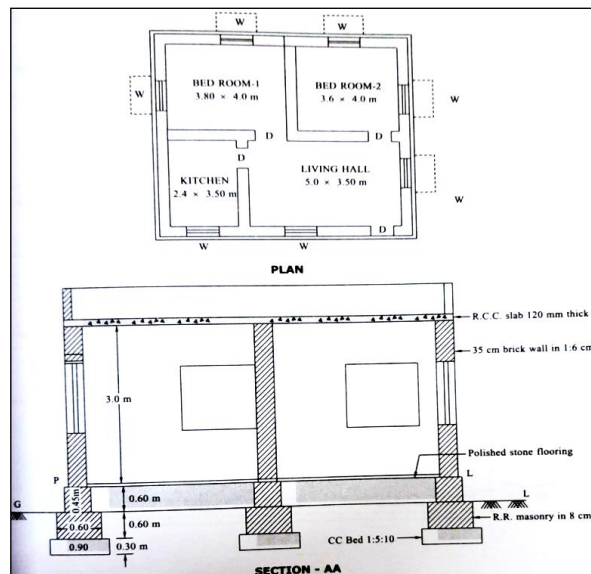

Fig.1 (CO2)
12. Prepare the detailed estimate for the following items of works from the fig.1 (CO2)